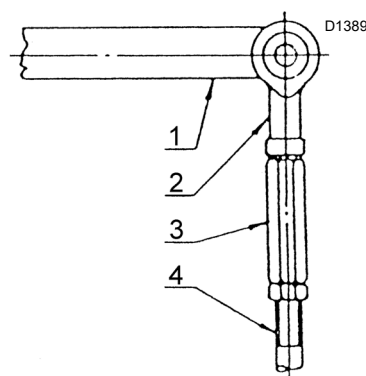

Fig. 14
- disengage the articulated coupling 2)(Fig. 14) of the lever 1);